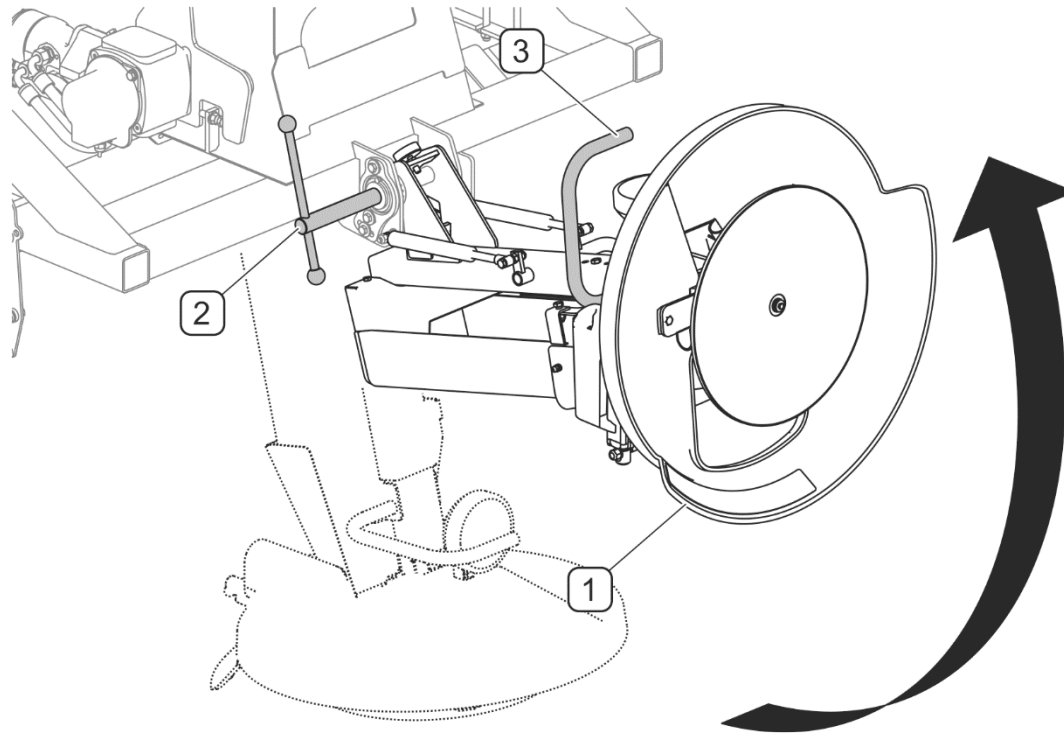

FIGURE 4.32 Raising the spreading mechanism
- raise the spreading unit and lock it in the upper position (FIGURE 4.32),
To raise the spreading mechanism for unloading (FIGURE 4.32) do the following: